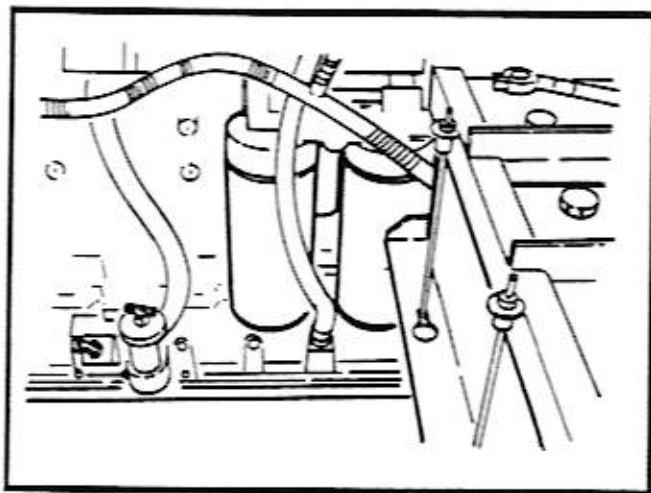

Figure 11-2. Engine Oil Filters
3. Unscrew and remove both of the used engine oil filters and the engine oil bypass filter. The engine oil filters are located on the left side of the engine beside the engine oil fill. The bypass filter is located in the engine compartment above the batteries. Be sure that the old filter gasket does not remain attached to the filter base. Refer to Figure 11-2 and 11-3.